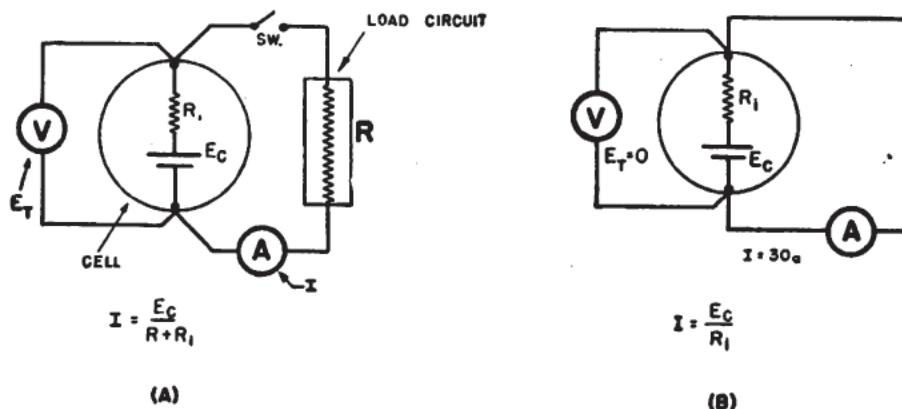

Figure 66.—Cell terminal voltage.
In (A) of figure 66, you have a 1.5-volt dry cell connected in a simple circuit. When the switch is open, the cell delivers no current, and the terminal voltage (E_t)—that is, the voltage across the terminals—will be the same as the cell voltage (E_c). The terminal voltage is also known as the **OPEN-CIRCUIT** or **NO-LOAD VOLTAGE** of the cells.
The fall in terminal voltage sets a definite limit to the amount of current you can draw in the circuit. If you reduce the load resistance to zero, as you see in (B) of figure 66, the cell is short-circuited and maximum current flows.